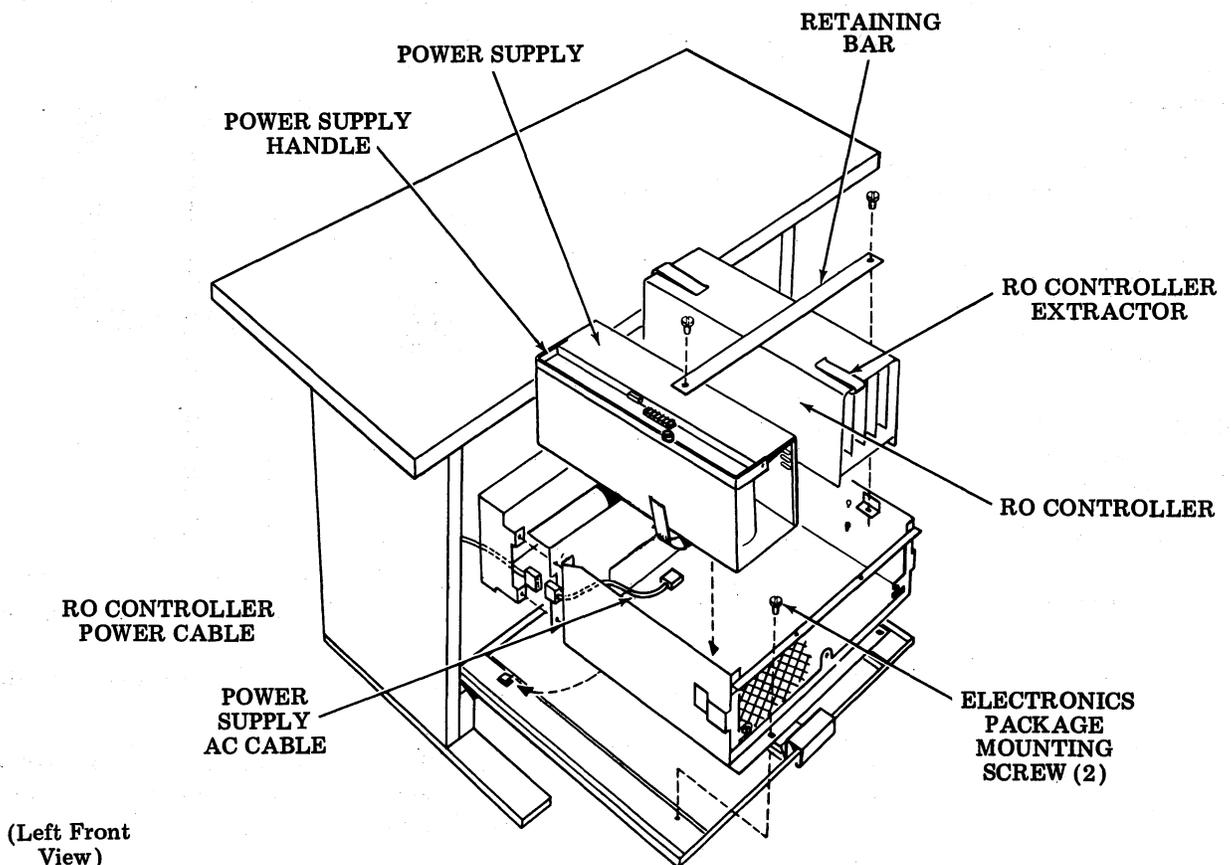

Fig. 12—RO Electronics Package
4.13 Remove the retaining bar by removing the screw at each end holding it to the electronics package (Fig. 12).
4.16 Remove the controller (Fig. 12) from the electronics package by lifting the RO controller extractors.